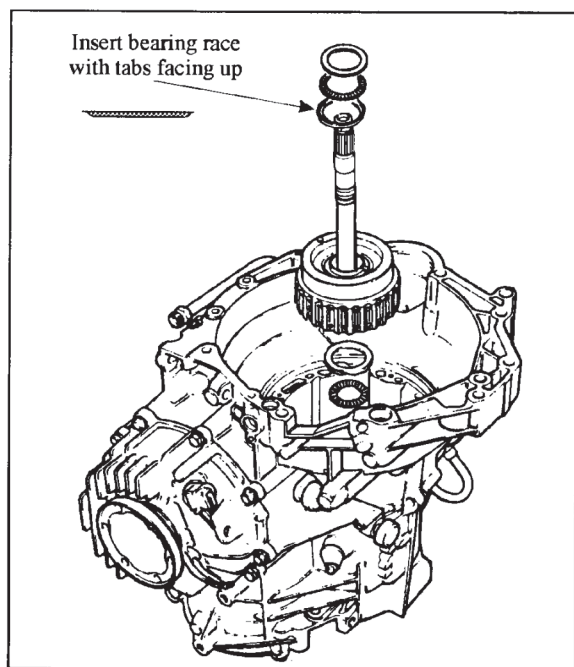

Figure 151
24. Install the K3 drum into the case, and twist until the clutches are splined onto the small drive shaft (See Figure 151).
25. Insert the torington bearing and both races onto the K3 drum (See Figure 151).